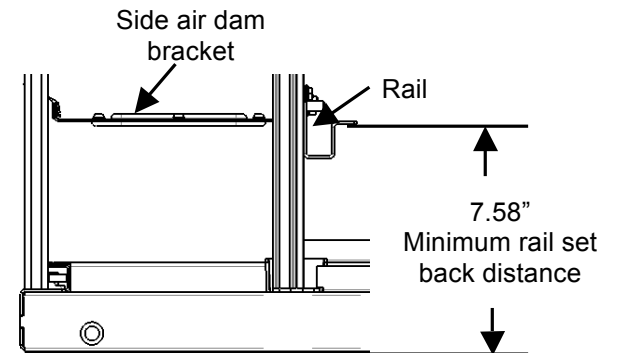

Fig. 2
- The Equipment mounting rail must be set back a minimum distance 7.58" (192.5 mm) (Fig. 2).